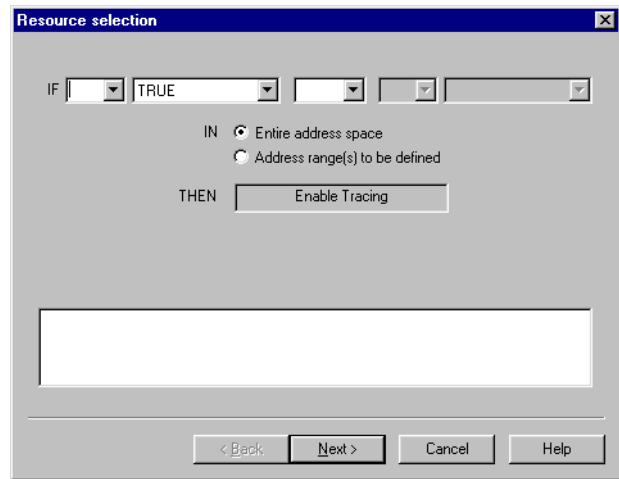

Figure 8-54 Resource selection for Enable Tracing
- Double-click **Enable Tracing** in the Actions list to define a rule. The Enable Tracing Resource selection dialog box shown in Figure 8-54 on page 8-52 is displayed.